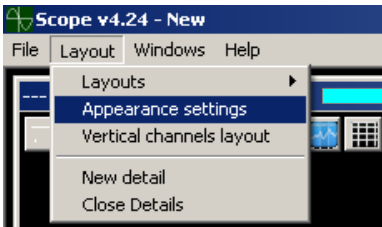
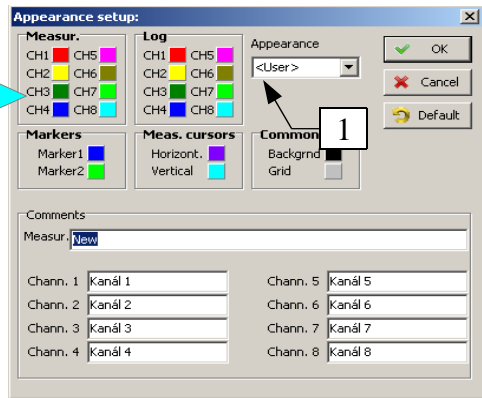

Figure 7.31
Figure 7.32
- *Snapshot*: This type of record saves the waveforms currently visible in the main window. It can be used regardless of channel settings, timebase etc. The procedure of saving this record is following - after clicking the icon Create snapshot (Figure 7.32 - 1) the program asks for a name of the file in which it will be saved, then after clicking the OK button the snapshot is saved. This type of record is used for saving waveforms of individual sensors or actuators, such as phase sensors, injectors etc.
At the end we will show you how to change the overall appearance of the Scope application. We have to find the Appearance settings menu in the Layout item in the menu bar (Figure 7.31); we can open a new settings window (Figure 7.32) by clicking on it. Here you can customize the looks of the main window. The setting is, of course, common for all windows including Detail type windows.
In this menu you can change color of background, grid, waveform, measuring cursors and time markers. You can also choose individual names of the channels. The application's appearance can be also chosen from three predefined schemes (Figure 7.32 - 1). It's factory settings can be restored by clicking the Default icon. The new setting is applied by clicking the OK button.